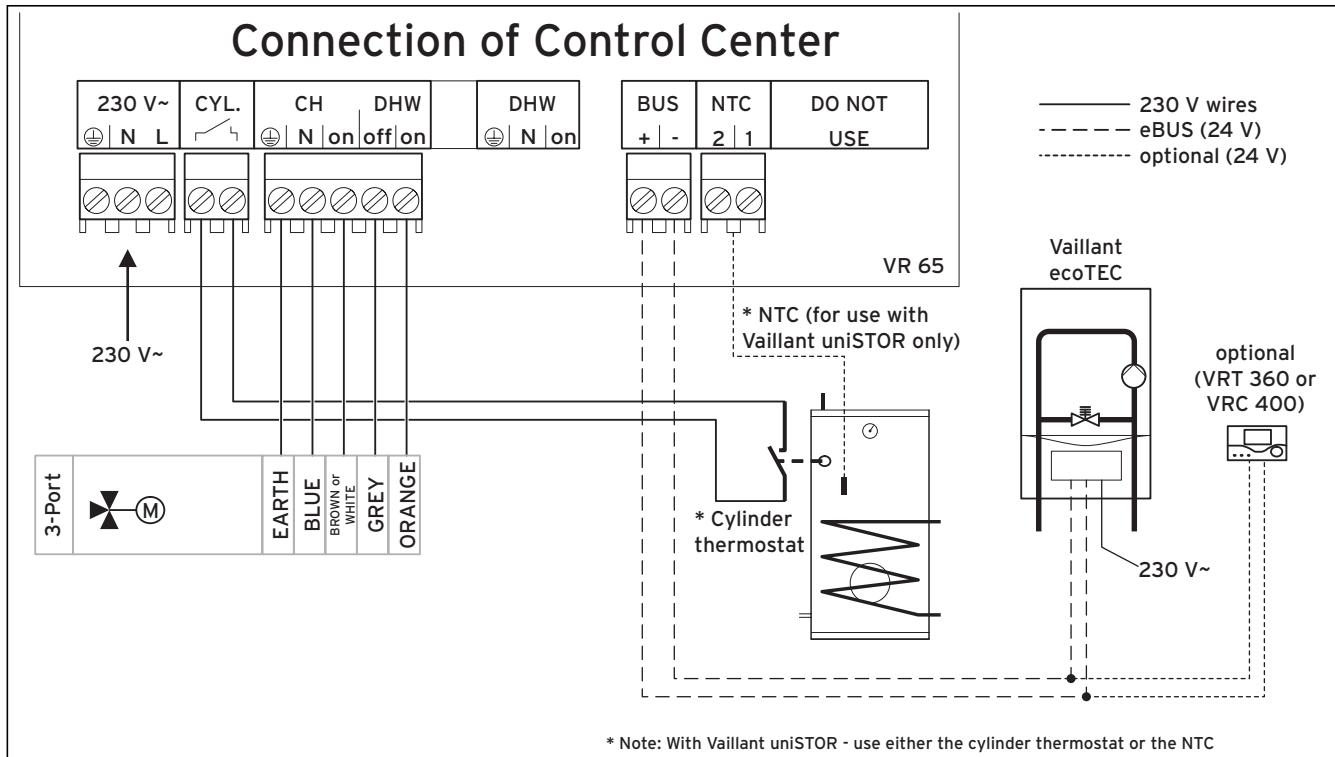

Fig. 5.2 Connection with 3-port valve
- Mark out the 2 fixing holes (2) and drill the holes.
- Wire up the Control Center as shown in the wiring diagrams (fig. 5.2 or 5.3).
- Fix all cables using the cable clamps (3).
- Wire up the Control Center as shown in fig. 5.2.
- The NTC is wired into the VR 65 as shown in fig. 5.2 or fig. 5.3.